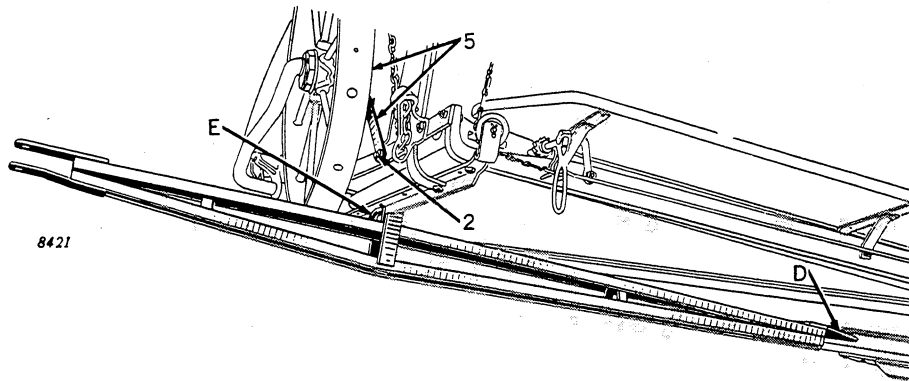

Figure 105
2. (Figure 105) Attach grain wheel support.
5. (Figure 105) Let grain wheel raising chain out to end of chain. Raise grain wheel and secure in position with the support.
6. Raise platform at grain wheel just high enough to insert connection on transport pole into diagonal cross sill at "D," Figure 105, from the rear. Secure connecting bracket on stub tongue to outer cross sill on platform at "E," Figure 105.